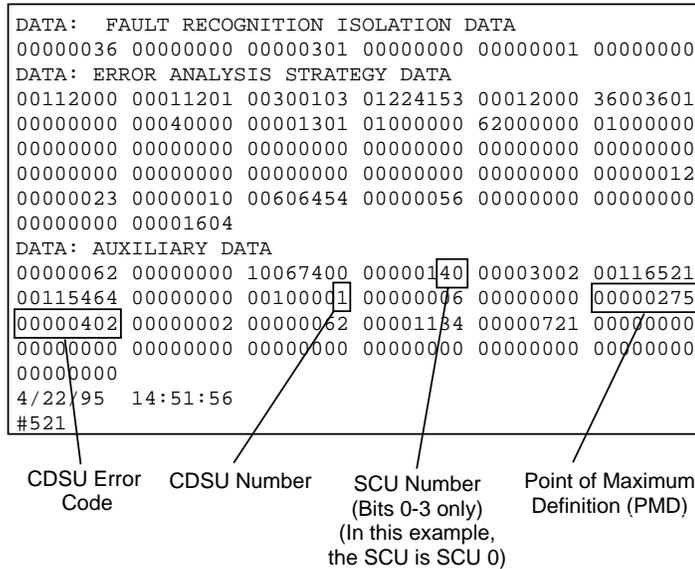
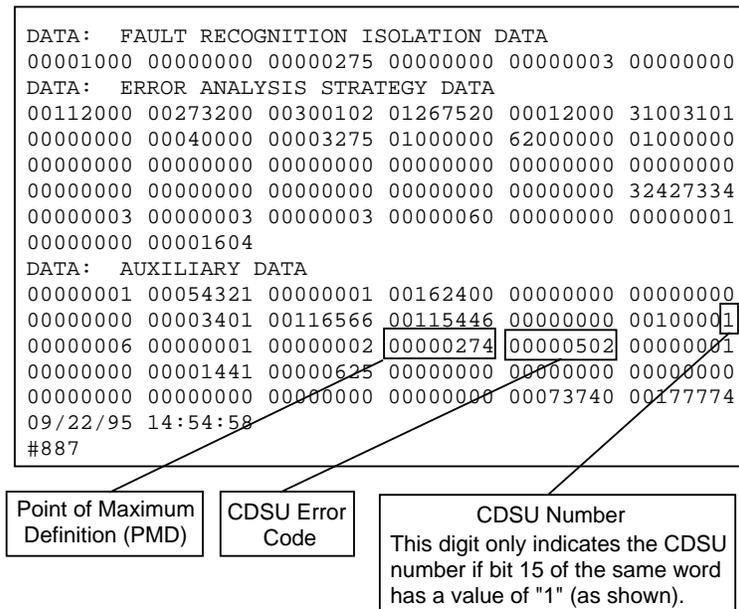

Figure 1. Part of the BLM Printout
Figure 2. Part of the SCU Interject Printout
1. Use Figures 1 and 2 to determine the CDSU-II error code and CDSU-II number.
Figure 1 shows a sample BLM printout with the location of the error code and CDSU-II number. Figure 2 shows a sample SCU interject printout with the location of the error code, CDSU-II number, and SCU number.
Figures 1 and 2 also show the location of the Point of Maximum Definition (PMD). The following PMDs indicate possible CDSU-II problems: